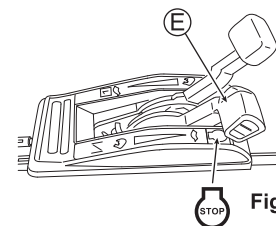

Fig. 15
2. Set the throttle lever (E) to "STOP". (See Fig. 15)